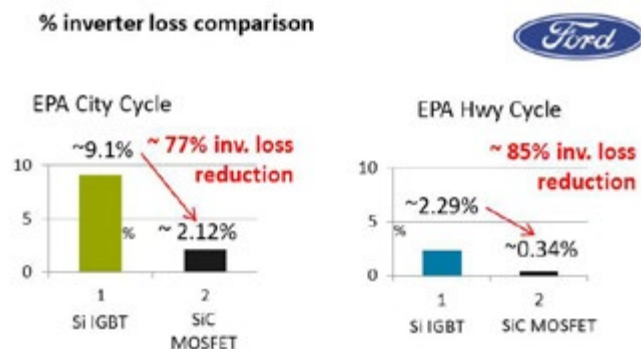

Figure 6: Inverter loss reduction by implementing Wolfspeed 900V 10mO SiC MOSFETs
shown in figure 6. For the OBC, using SiC can increase system level efficiency by >1.5% whilst increasing power density by over 30% when compared to traditional silicon approaches.
- **Unnecessary increase of switching losses.** Even a modest level of common-source inductance, L_{CSI} , will resist fast changes in current and increase switching losses, as shown in Fig. 6.
Fig. 6. Simulated drain voltage (top) and drain current (bottom) waveforms with $L_{CSI} = 5 \text{ nH}$ (blue) and $L_G = 20 \text{ nH}$ (green). As L_{CSI} increases, there is a delay in the fall of V_{DS} and a simultaneous decrease in di/dt ; this results in an increase of switching losses from $266 \mu\text{J}$ to $545 \mu\text{J}$.